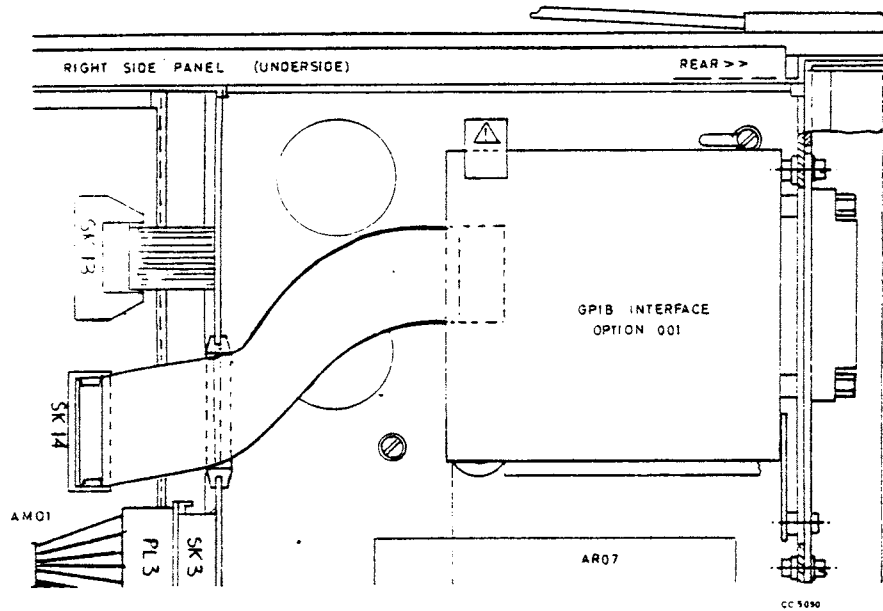

Fig. 1 Interface installation
- (1) Switch the instrument off and disconnect from power supply.
- (2) Remove and discard the rectangular cover plate from the left-hand side of the rear panel. Also remove the instrument's bottom cover. Insert the cable and p.c.b. through the rear panel such that the GPIB connector is on the left-hand side. Using the two retaining screws from the cover plate, secure the GPIB assembly to the rear panel.
- (3) Feed the interface cable through the cut-out in the bulkhead metalwork as shown in Fig. 1 and connect the interface plug to SK14 on the 6500 mother board, observing correct polarity.